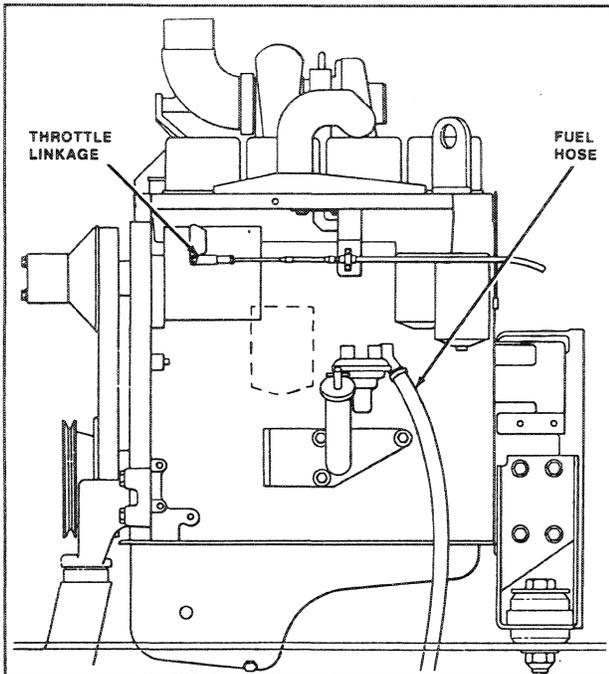

FIGURE 2-8: Fuel Hoses and Throttle Cable
11. Disconnect throttle cable from fuel pump and fuel intake and return hoses from engine. Cap hoses and ports (Figure 2-8).
11. Connect fuel intake and return lines and throttle cable. Do not overtighten hose clamps (Figure 2-8).